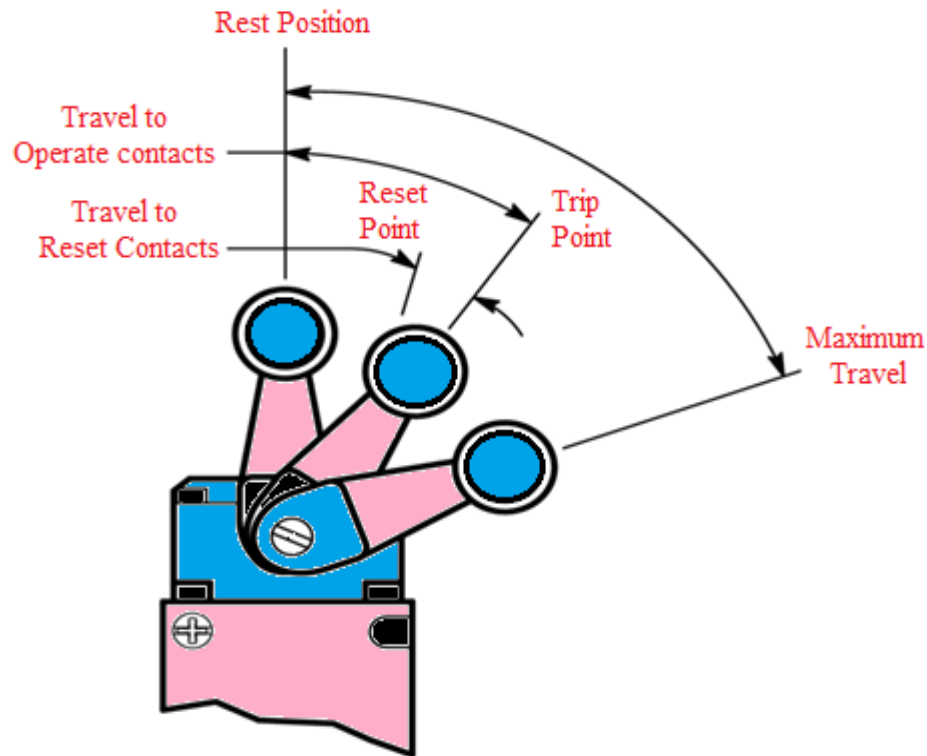

Fig.5.10 Limit switch
- The simple application of a limit switch is in producing automatic to and fro movement of a planar machine bed shown in fig.5.10. It must be understood here that a limit switch is not used as a mechanical stop.
(1) A simple limit switch, (2) Rotary Cam type Limit switch and (3) Heavy duty Limit switch are the types of limit switch.